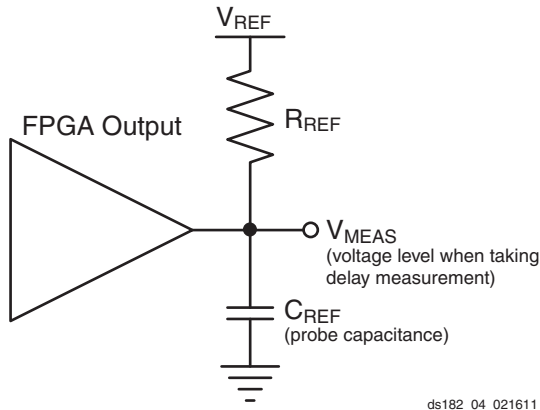
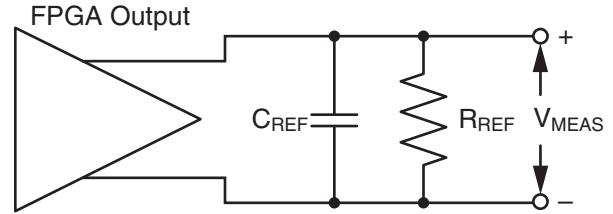

Figure 4: Single Ended Test Setup
Figure 5: Differential Test Setup
5. This is an input voltage reference that bears no relation to the V_{REF} / V_{MEAS} parameters found in IBIS models and/or noted in Figure 4.
Output delays are measured using a Tektronix P6245 TDS500/600 probe (< 1 pF) across approximately 4" of FR4 microstrip trace. Standard termination was used for all testing. The propagation delay of the 4" trace is characterized separately and subtracted from the final measurement, and is therefore not included in the generalized test setups shown in Figure 4 and Figure 5.